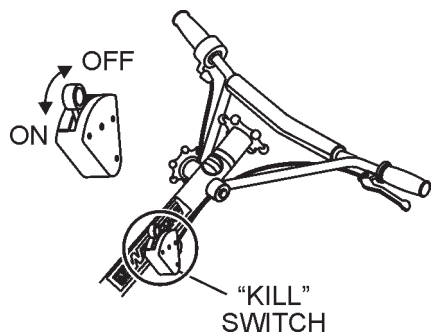

Figure 24. Centrifugal Kill Switch
- Place the *centrifugal kill switch* (Figure 24) in the "ON" position. For models that use this feature.